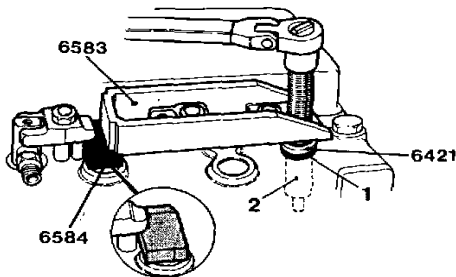

Fig. 152. Fitting the copper sleeve and steel ring (60 series)
11. **60 series:** Fit the counterhold 6584 over one of the cylinder head bolt heads in order that it will support the press tool 6583 (fig. 152). Screw on the press tool with the injector attaching nut so that it is parallel with the cylinder head.